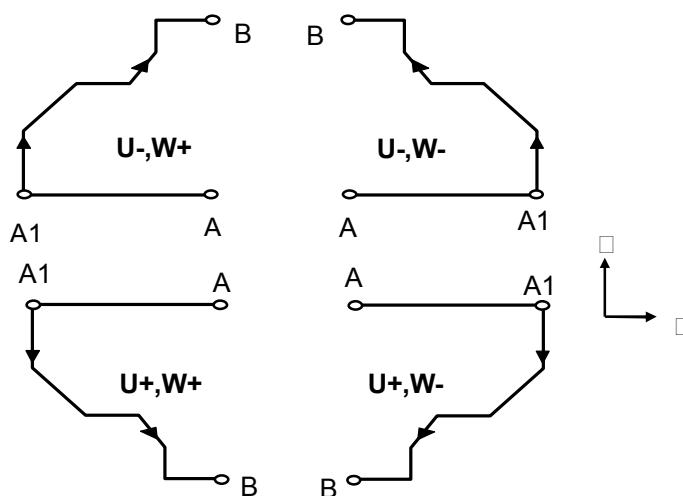

Fig. 3-37 Cutting Path of G72 Compound Canned cycle
- (1) N(ns)□N(nf) define the machining path of A1□B.
- (2) No assignment of positioning commands on □-axis is allowed from A to A1.
- (3) The feed-rate from A to A1 is either G00 or G01.
- (4) The □ and □ tool path from A1 to B must be incremental or decremental.
- (5) No subprogram is available from N(ns) to N(nf).
- (6) G72 is applicable to the following four cutting types. They are all parallel to □-axis. Whether U and W are positive or negative (Fig. 3-37) is determined by the direction of tool path.